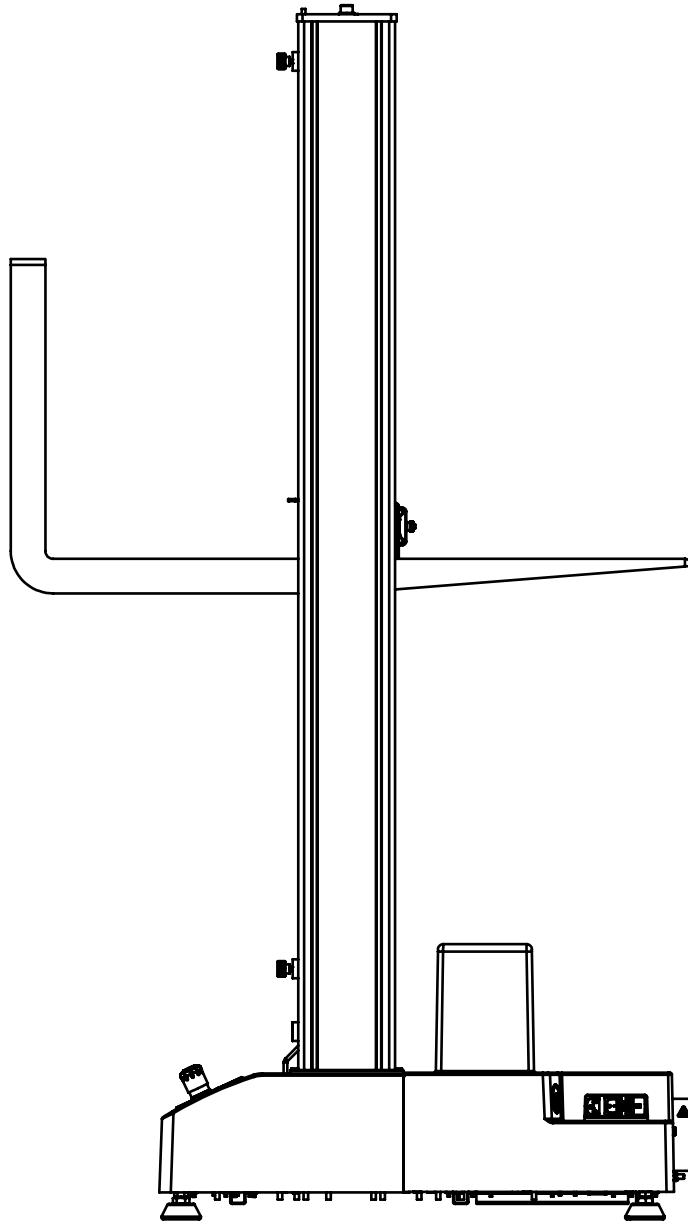

Figure 10. Lifting the Frame from the Crosshead
- Using a forklift with padded forks or protective material around the crosshead, carefully insert the forks under the crosshead between the columns. See Figure 10 on page 62.